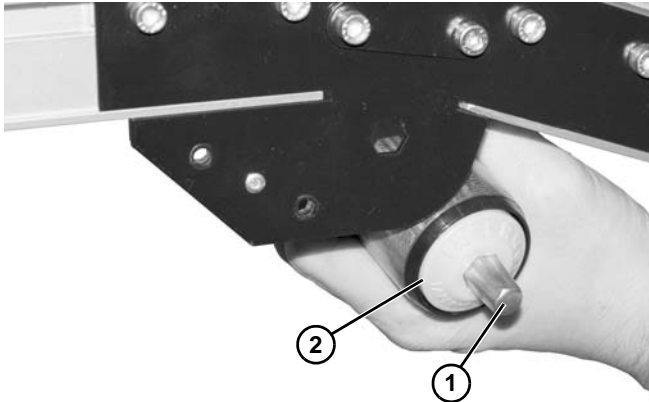

Figure 56
- b. For 5" (127 mm) or wider conveyor, push spring-loaded shaft ends (**Figure 56, item 1**) inward. Remove roller (**Figure 56, item 2**).